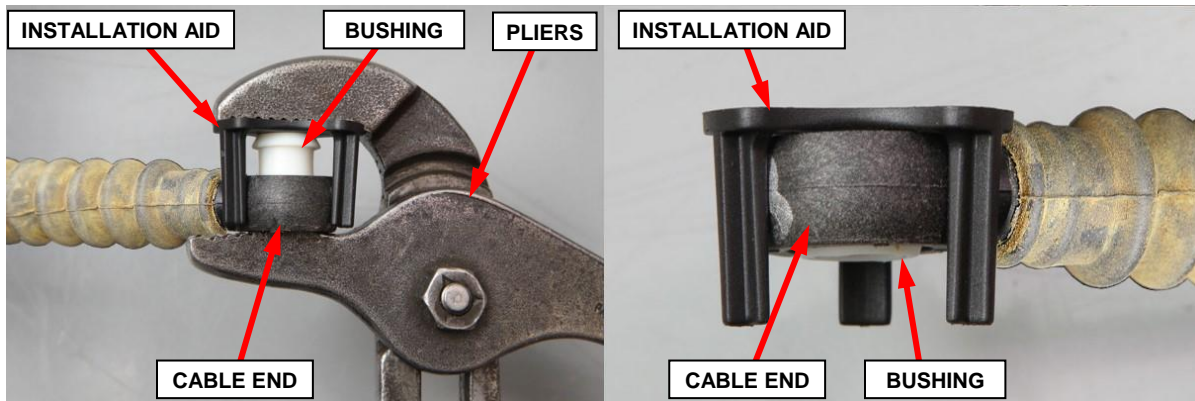

Figure 8 – Squeeze Installation Aid with New Bushing into Cable End
11. Using pliers, squeeze the installation aid with new bushing into the cable end until fully seated (Figure 8).